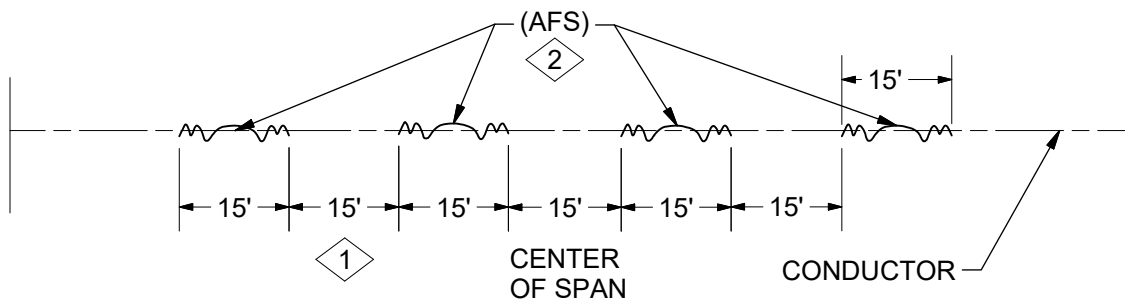

Figure 1 - EVEN Number of AFS 3
3. For a span requiring an EVEN number of AFS, install per Figure 1.